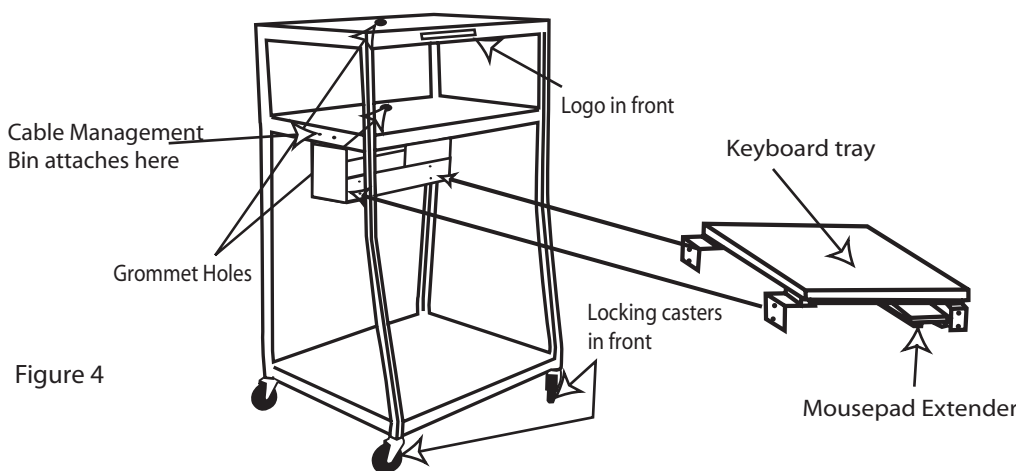

Figure 4
1. Attach keyboard tray/mousepad extender to the cord management tray using 4 small screws. (Line up to the holes on the front legs and the assembly). Line holes on upper cord management bin to the holes on the short sides of the middle shelf. Attach bin assembly to middle shelf using 4 small screws. (Refer to the finished cart drawing, Figure 4).